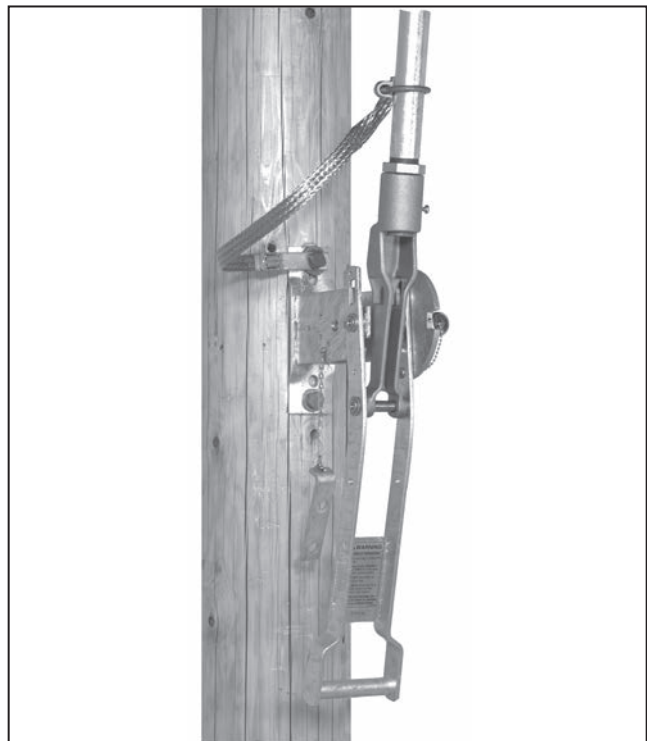

Figure 30. Attaching the grounding strap.
STEP 28. Fasten the free end of the grounding strap to the lowest vertical operating-pipe section a few inches above the operating handle assembly with the U-bolt connector provided for this purpose. See Figure 30. Then, connect the lower end of the strap to a suitable earth ground, using the grounding connector provided at that end of the strap●.